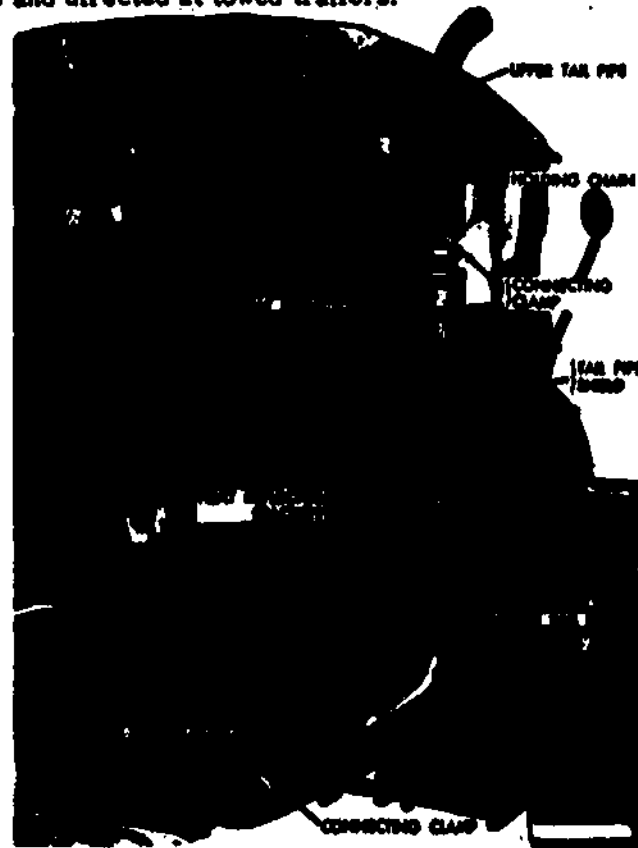

Fig 5-12. Tailpipe attached to vehicle cab.
a. Attaching tailpipes to vehicle cabs (fig 5-12). Some tractor-type trucks have their tailpipes run up the side of the cab and directed at towed trailers.